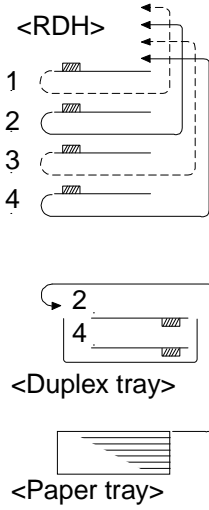

Fig 1
- 1) When the start key is pressed the 4th and 2nd originals are scanned, then these copies are stacked in the duplex tray. The 3rd and 1st originals have only passed over the exposure glass [Fig 1].